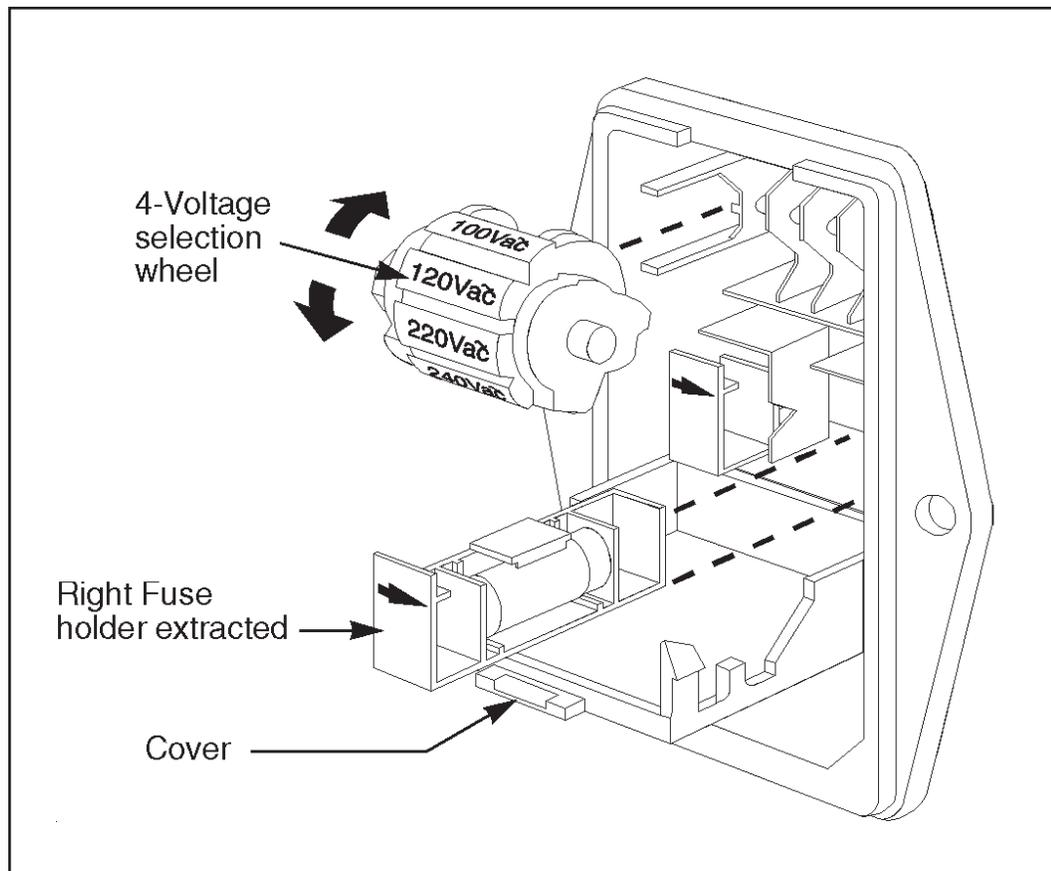

Figure 51 The Line Entry Module
2. Pull the Selection Wheel straight out of the housing (Figure 51). A small bladed screwdriver or similar tool may be required to pry it out of the housing.